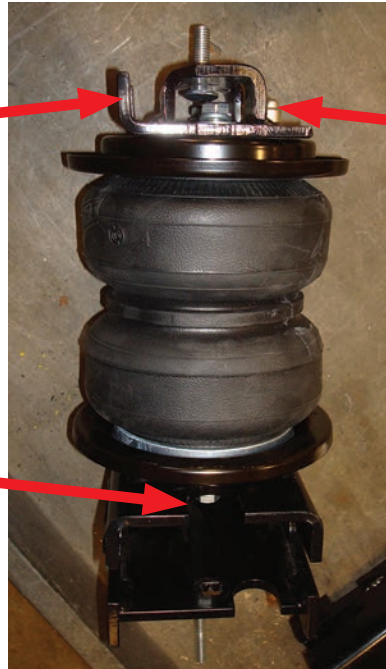

fig. 14
- When setting the lower bracket onto the air spring assemblies, you will be setting up both a left and a right hand assembly. Assemble the right hand (passenger) assembly as shown in Figure 14. Assemble the left (driver) side air spring assembly by rotating the air spring assembly 180°.